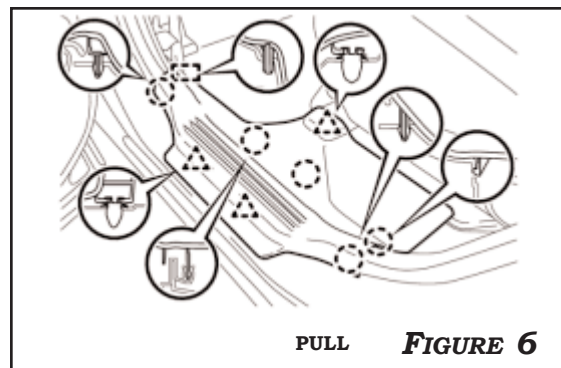

FIGURE 6
6. DISENGAGE THE 8 CLIPS AND REMOVE THE LEFT REAR DOOR SCUFF PLATE. **FIGURE 6**